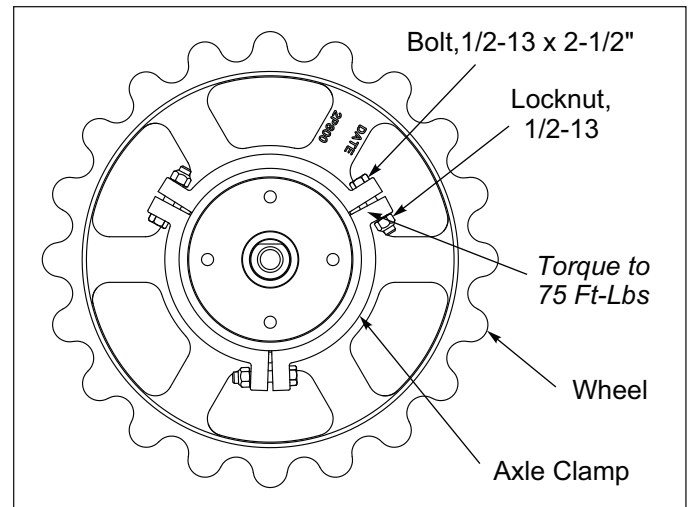

Figure 4-7: Clamp Tightening
1. Tighten the Clamp Bolts evenly to achieve equal spacing between clamp section. Torque to 75 Ft-Lbs. **See Figure 4-7.**